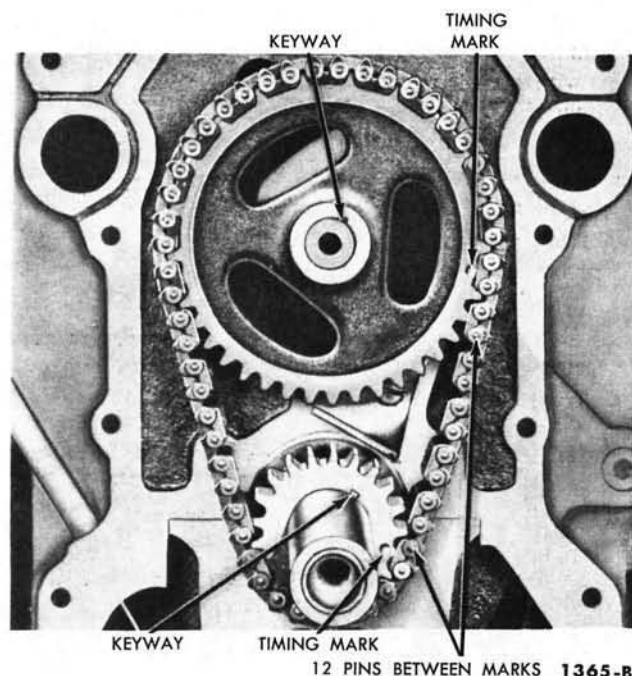

FIG. 37—Aligning Timing Marks—292 Engine
ets and chain are positioned as shown in Fig. 37. Remove the camshaft sprocket cap screw, washer, and spacer. Remove the fuel pump eccentric. Slide both sprockets and the timing chain forward, and remove the sprockets and the timing chain as an assembly (Fig. 38).
2. On a 292 engine, position the sprockets and timing chain on the camshaft and crankshaft (Fig. 38). Be sure the timing marks on the sprockets and chain are positioned as shown in Fig. 37. There are 12 timing chain link pins between the timing marks on the sprockets.
3. Crank the engine until the timing marks on the sprockets are positioned as shown in Fig. 37.